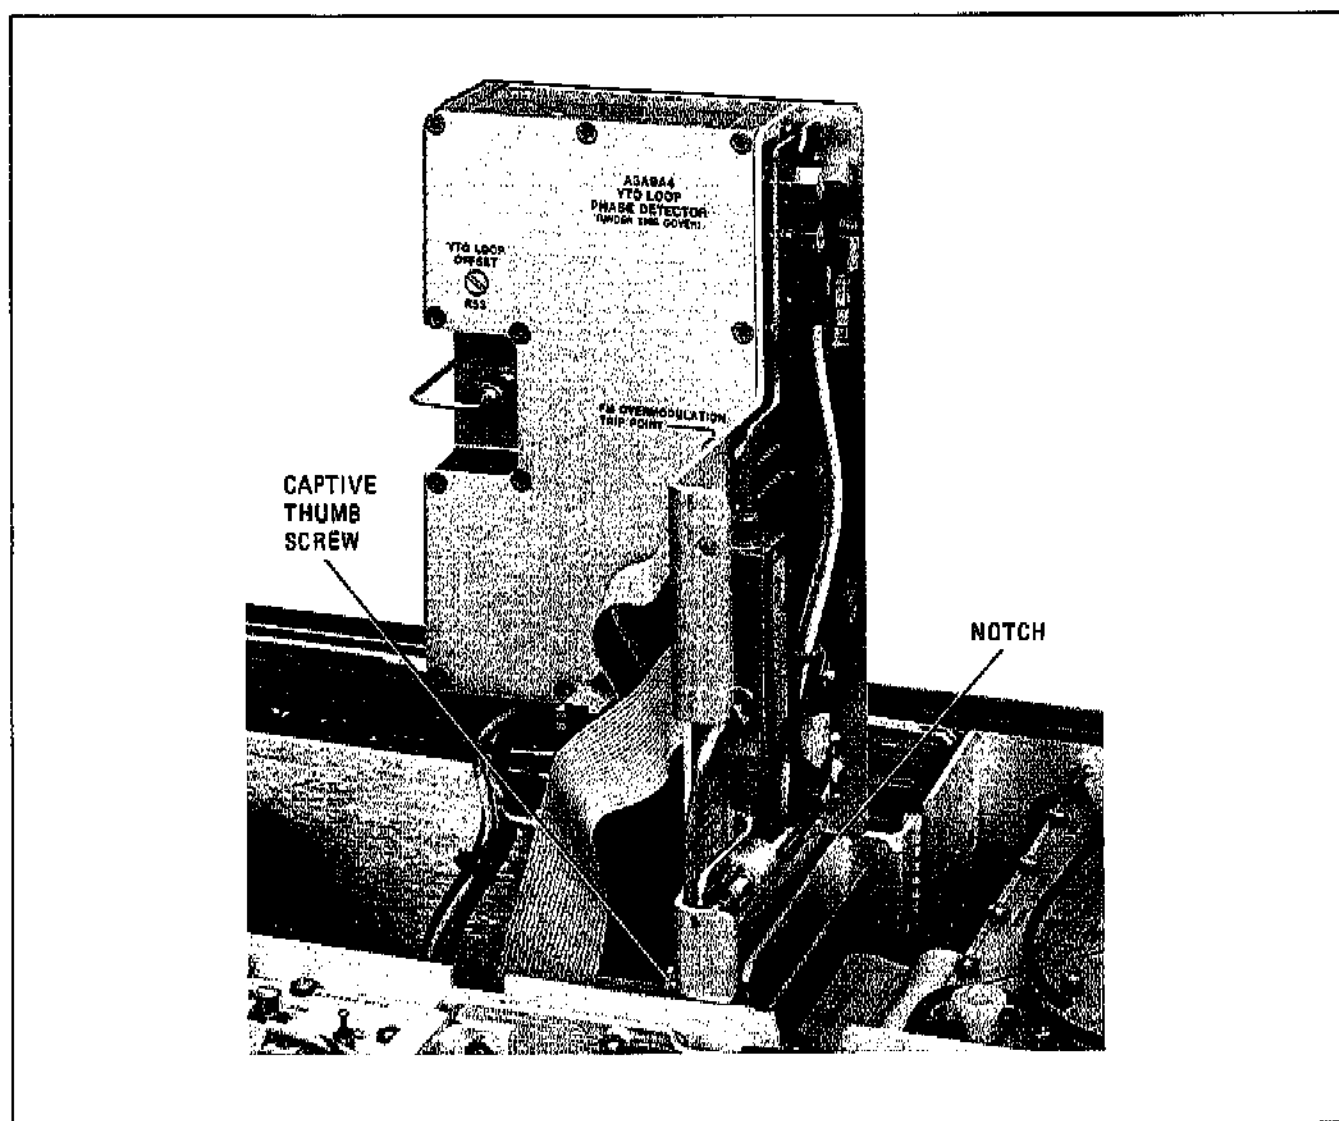

Figure 8-5. A3A9 Assembly in Service Position
e. Lift the assembly out until it clears the surrounding assemblies. Hook the front edge of the assembly over the front edge of the A3 Assembly as shown in Figure 8-5.